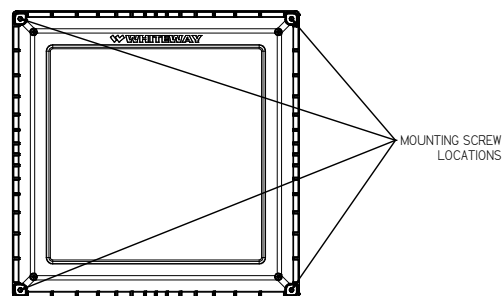

FIGURE 1
2. Secure the luminaire to the canopy using the provided self-drilling screws. (Fig 1)